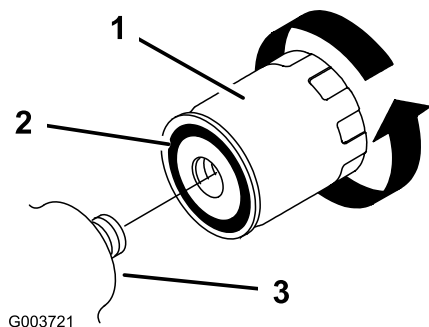

Figure 32
- Install the replacement hydraulic filter onto the filter adapter (Figure 32). Tighten it clockwise until the rubber gasket contacts the filter adapter, then tighten the filter an additional 1/2 turn.
- Remove the old filter (Figure 32) and wipe the surface of the filter adapter gasket clean.
- Apply a thin coat hydraulic fluid to the rubber gasket on the replacement filter (Figure 32).